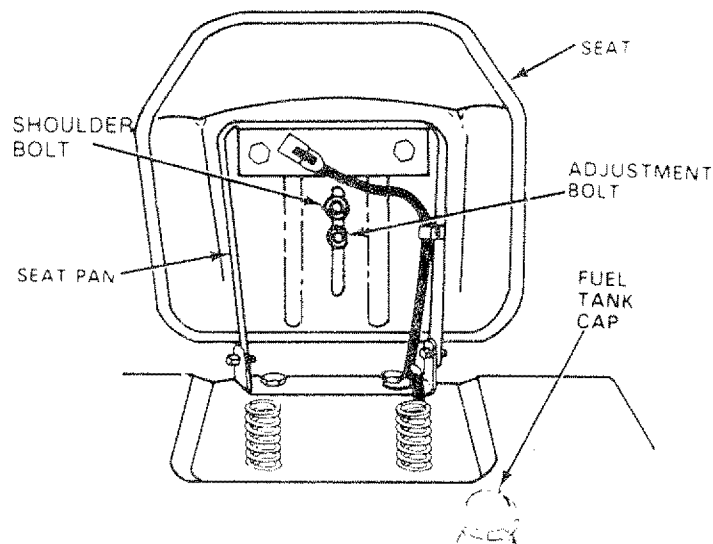

FIGURE 2
- Place seat on seat pan. Screw hex head machine screw, lockwasher and flat washer into seat (Fig. 2). Screw shoulder bolt into seat (Fig. 2). Machine screw, shoulder bolt and washers found in bag of parts (shown full size on page 6).
- To adjust, raise seat. Loosen adjustment bolt (Fig. 2) and slide seat to a comfortable operating position. Tighten adjustment bolt securely using a 3/4" wrench.